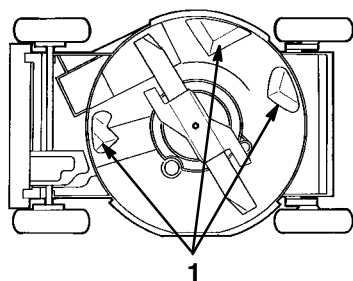

Figure 15
To ensure best performance, keep the underside of the lawn mower housing clean. Be especially careful to keep the kickers free of debris (Fig. 15).
3. Tip the lawn mower onto its left side (Fig. 15).